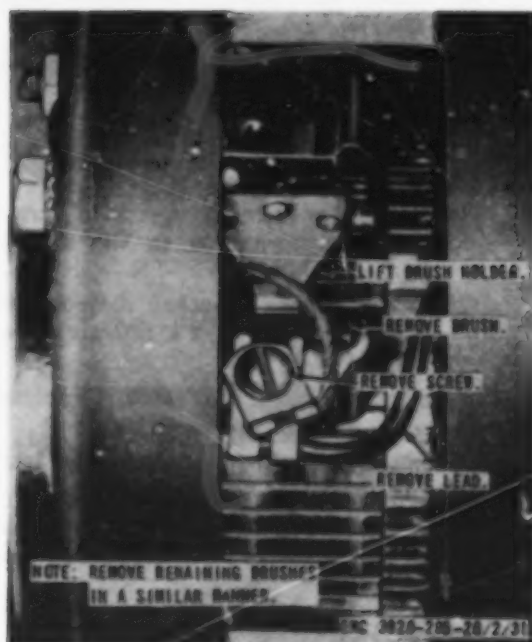

Figure 34. Generator brush, replacement.
- (1) Remove the brushes from the generator as instructed on figure 34.
- (2) Inspect the brushes for worn or chipped condition. Replace brushes if worn to less than one-half inch in length. Inspect the armature commutator for burning, grooving, out-of-round, and high mica between segments. Replace a defective generator.
- (3) Install new brushes in reverse of the instructions on figure 34.